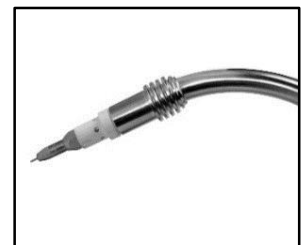

Fig. 17
10. Press and hold the inch button (D) to feed the wire through to the torch neck. Release the inch button when the wire exits the torch neck (Fig. 17).
11. Fit the correct sized contact tip and feed the wire through it, screw the contact tip into the tip holder of the torch head. Clip the wire close to the tip (Fig. 17) unless testing the drive tension in step 12.